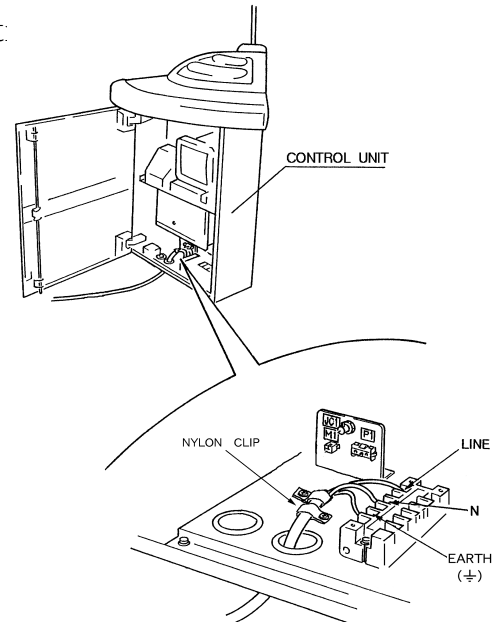

Fig. 6
Refer to Fig. 6.
4. Connect the cable to the terminal block as indicated in Fig. 6.
Fig. 6 is for single-phase two-wire system. In case of single-phase three-wire system, remove the secondary jumper plate from the terminal block.